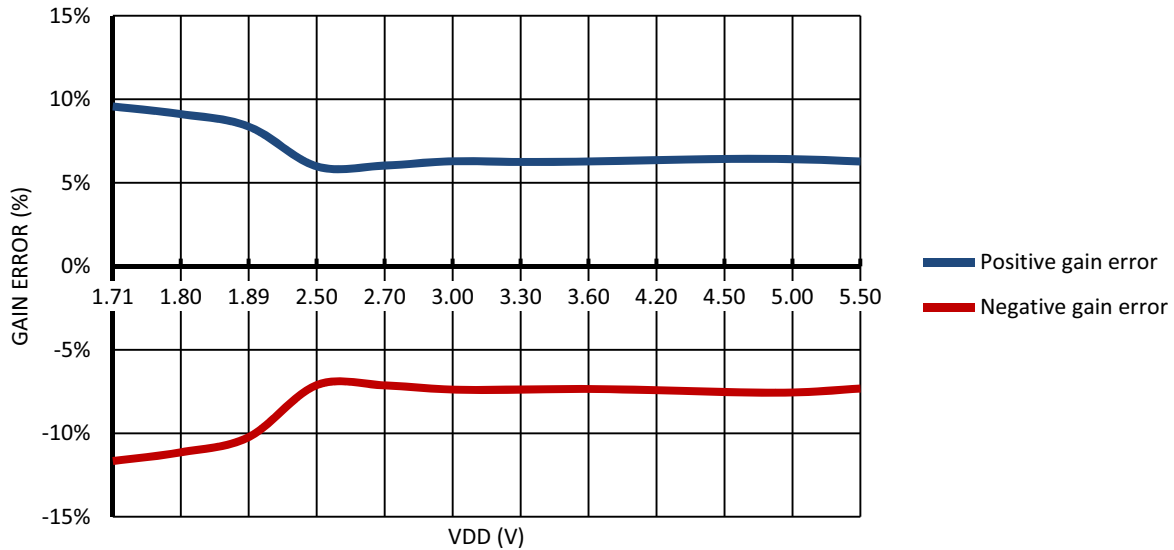

Figure 19. Input Buffer Gain Error vs. VDD
*Note: the input buffer gain depends on VDD, see Figure 19. .*